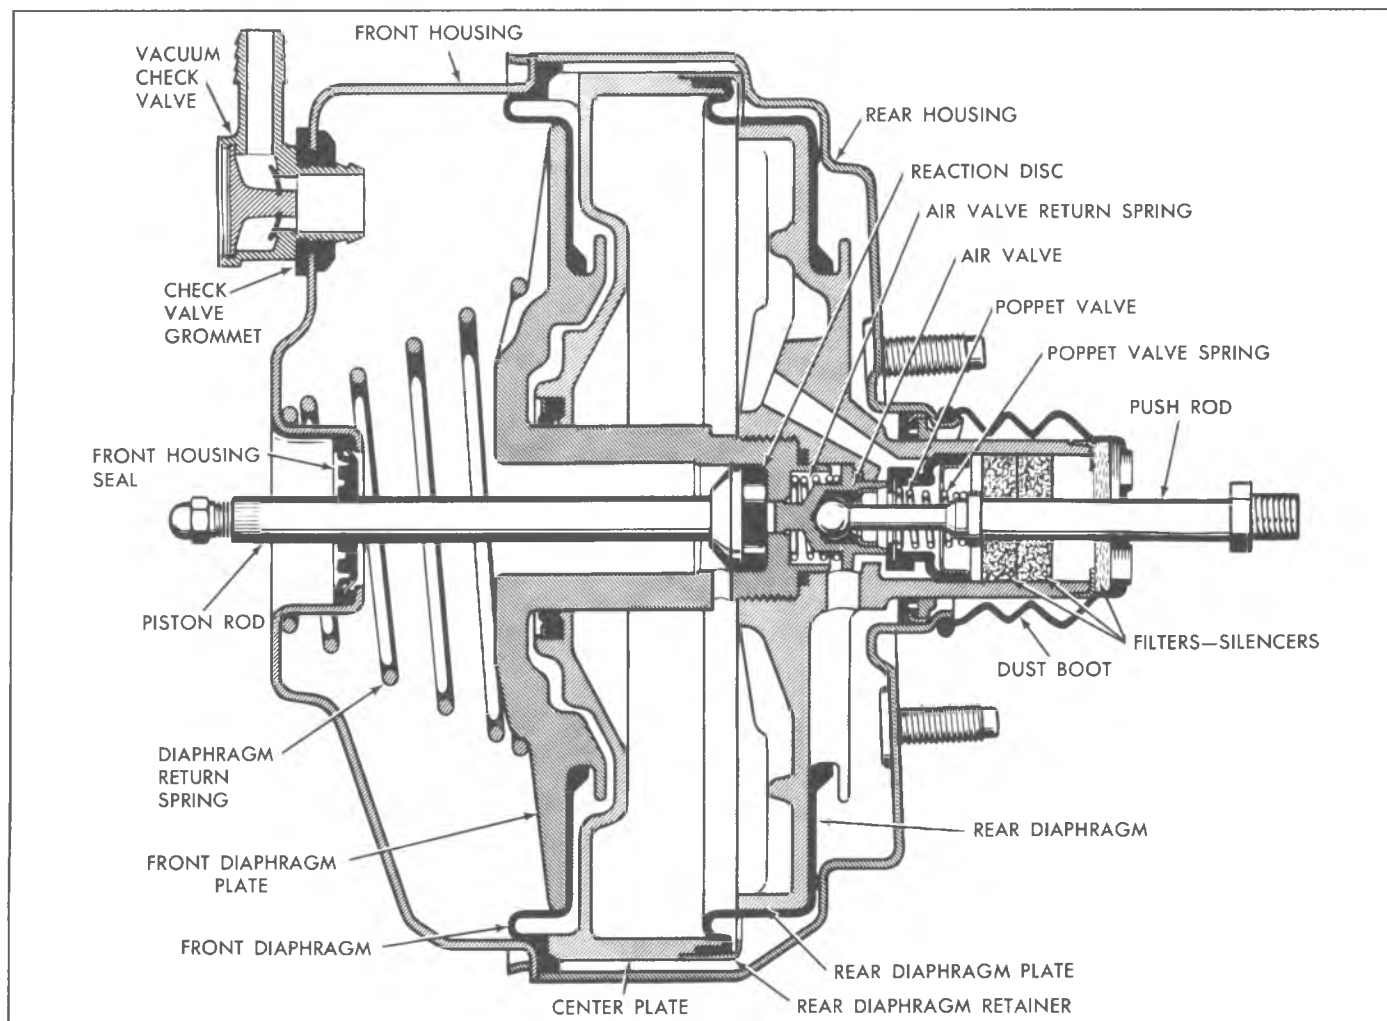

Fig. 1D-Bendix Dual Diaphragm Cross Section
Disassembly (Figs. 1D and 2D)
2. Remove two (2) master cylinder attaching nuts and remove the master cylinder.
3. Remove the front housing seal (fig. 1D); pulling the piston rod from the front housing will also remove the seal. Separate the piston rod and seal.
9. Install end of air valve push rod in vise, leaving enough clearance to position two (2) open end wrenches between the vise and retainer on hub of rear plate.